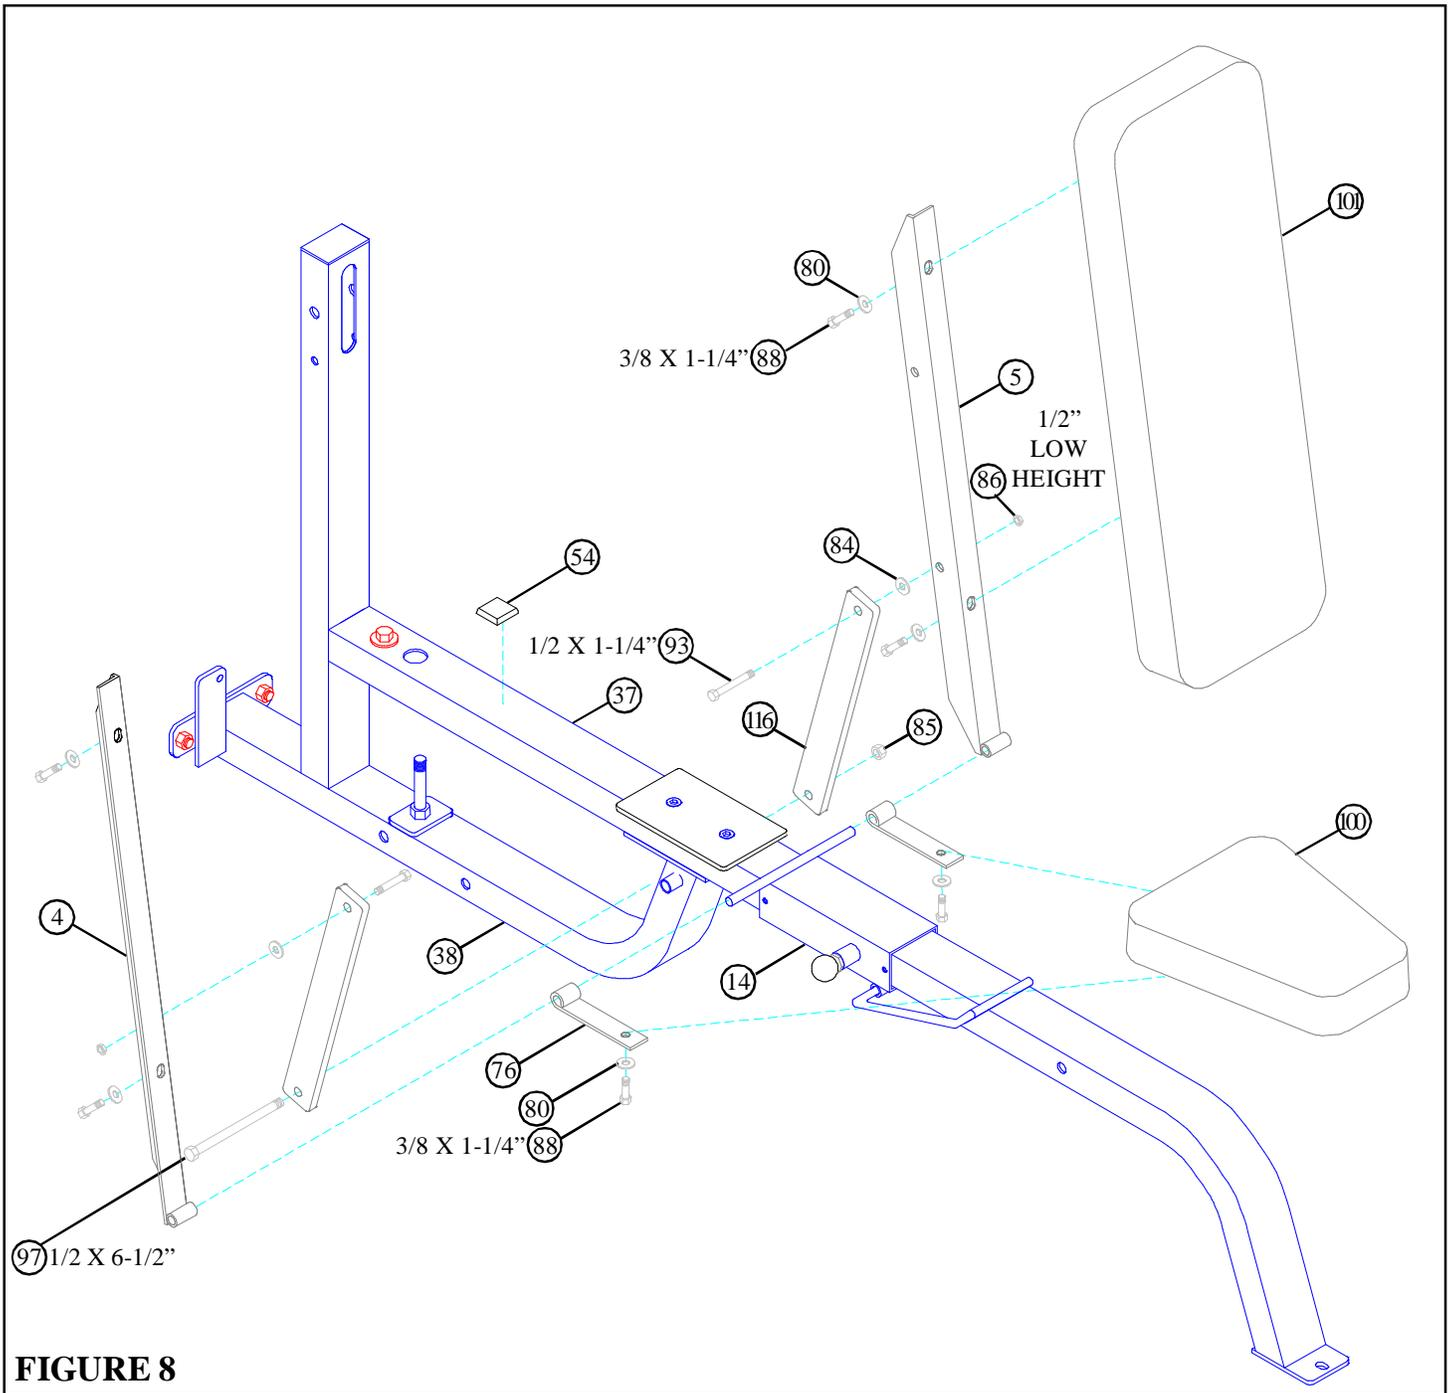

FIGURE 8
- Slide two HINGE TABS (76) onto the WOLFF SLEEVE (14) and **SECURELY** attach PRESS SEAT PAD (100) using two 3/8 X 1-1/4" BOLTS (88) and two 3/8" WASHERS (80). (NOTE: The "hinge" part of the HINGE TAB (76) should face upward as shown in FIGURE 8.)
- Slide the RIGHT BACK PAD ANGLE (5) and LEFT BACK PAD ANGLE (4) onto the WOLFF SLEEVE (14) and attach the PRESS BACK PAD (101) using four 3/8 X 1-1/4" BOLTS (88) and four 3/8" WASHERS (80). See FIGURE 8.
- **SECURE** two 2 X 15-1/2" PLATES (56) to the RIGHT BACK PAD ANGLE (5) and the LEFT BACK PAD ANGLE (4) using two 1/2 X 1-1/4" BOLTS (93), two 1/2" WASHERS (84) and two 1/2" LOW HEIGHT LOCK NUTS (86). (NOTE: **SECURE lock nuts, then back off 1/4 turn.**)
- **SECURE** the 2 X 15-1/2" PLATES (56) to the bushing in the PRESS BASE (38) using one 1/2 X 6-1/2" BOLT (97) and one 1/2" LOCK NUT (85) as shown in FIGURE 8.
- Apply one 1-1/4" RUBBER BUMPER (54) to the PRESS FRAME (37) where the back of the pad comes in contact with the frame.